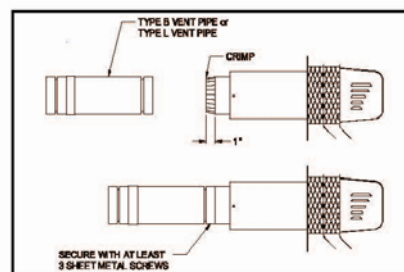

Figure 10
1. Using a hand crimper or a like device, crimp the inner pipe of the SWG power venter approximately 1" long. (See Figure 10)
3. Secure the vent pipe to the SWG power venter inner pipe with at least three (3) #8 sheet metal screws. Pre-drilling the holes through both pipes will allow easier fastening.